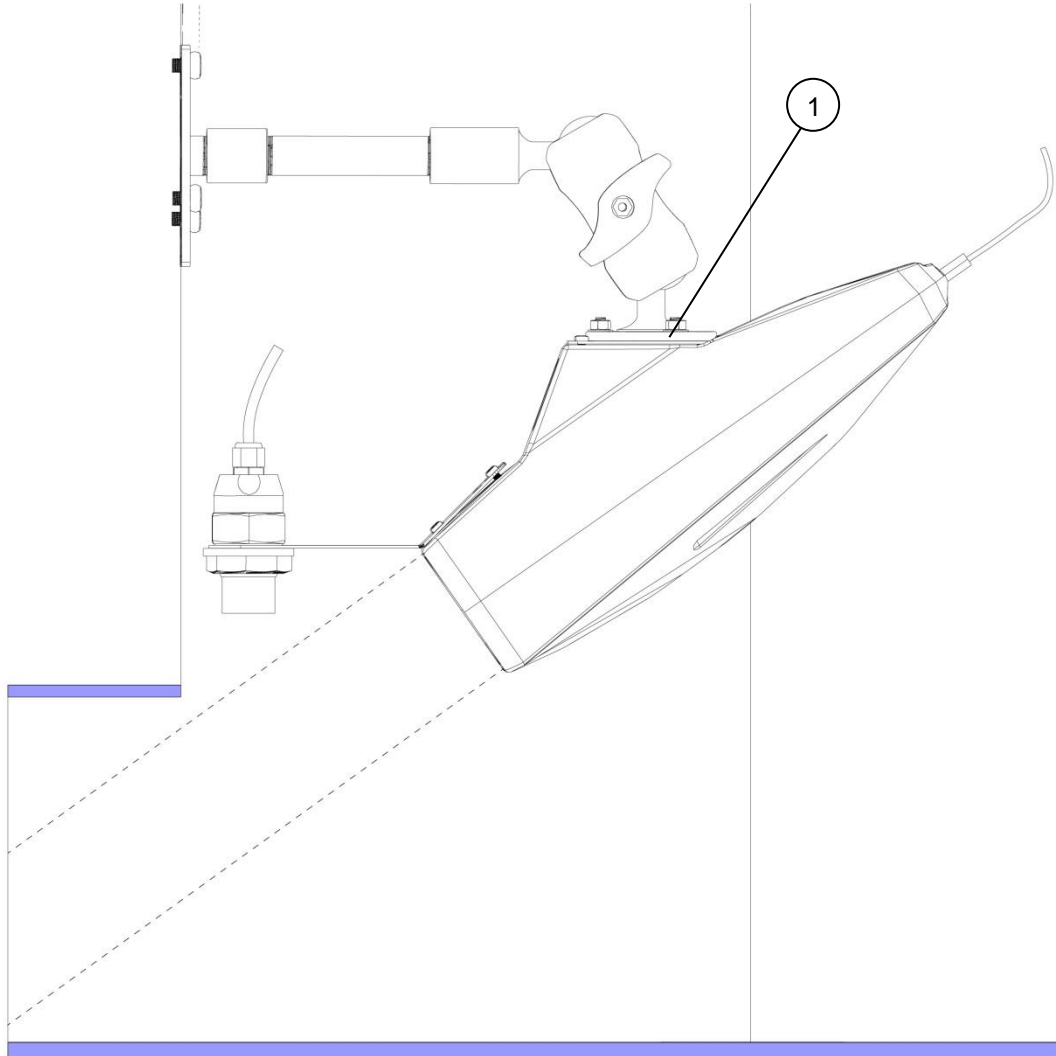

Figure 19: Horizontal alignment of the RAVEN-EYE® sensor
1. Use a bubble level and position it on the horizontal platform of the RAVEN-EYE® (see point 1 on Figure 19).